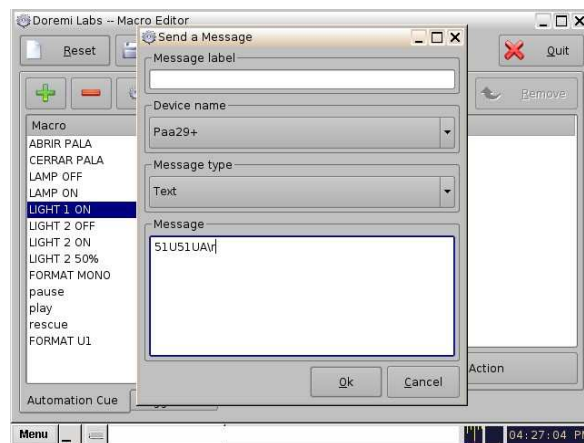

Figure 8.3.2C
5. You can see an example of this from in the **Figure 8.3.2C**.